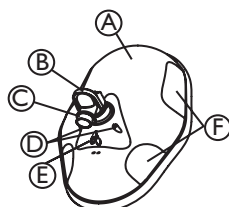

Figure 2
4. Connect the circuit tubing to the mask swivel (Figure 2-C). Turn the CPAP or BiPAP unit on.